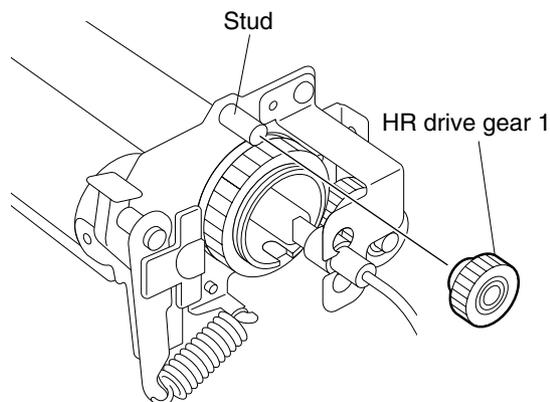

Fig. 14-7-15
6. Remove the HR drive gear 1. (See Fig. 14-7-15)